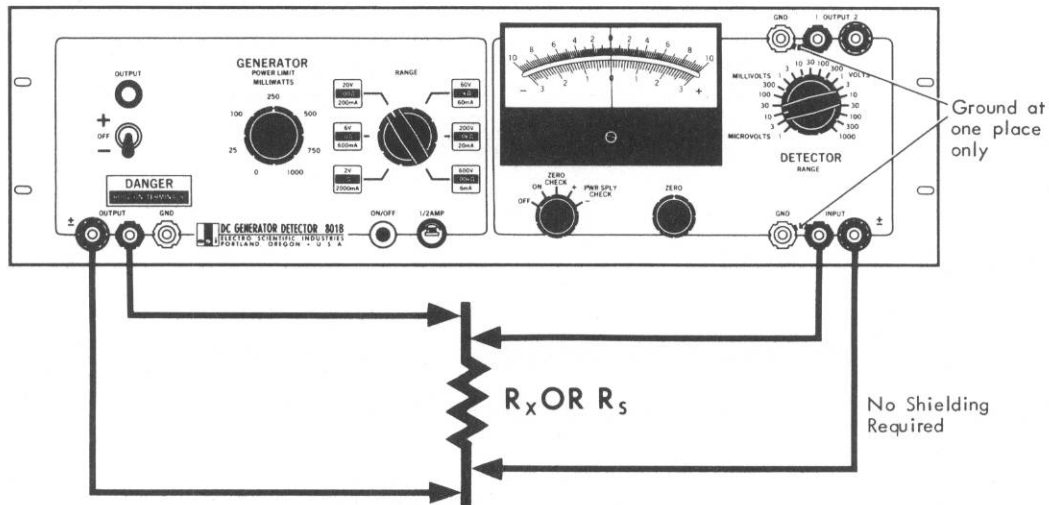

Figure 2-5. Low Resistance Measurement
To measure the approximate value of a very low resistance, such as a switch or relay contact or a piece of wire, use the circuit shown in Figure 2-5.
4. Connect the unknown resistor R_x in the circuit of Figure 2-5.
1. Connect a known standard resistor, having a value R_s not greater than 1000 ohms, in the circuit of Figure 2-5.